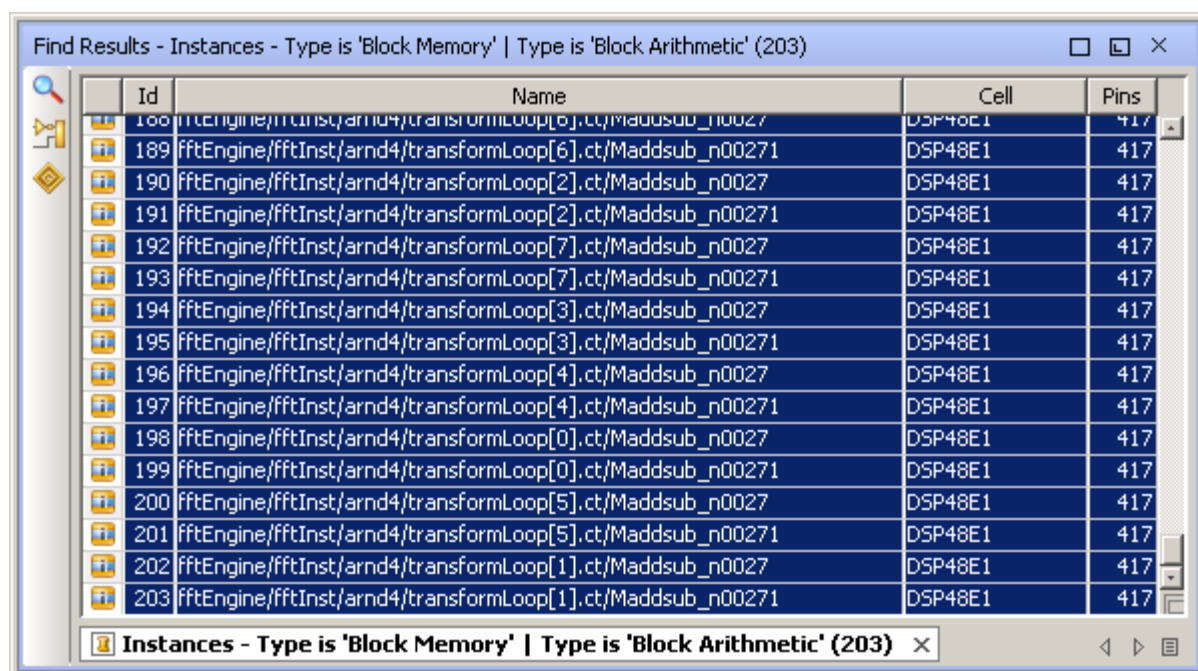

Figure 8 Selecting Logic in Find Results Dialog Box
1. Select all placements you wish to fix (as from the Find Results, as shown in Figure 8).